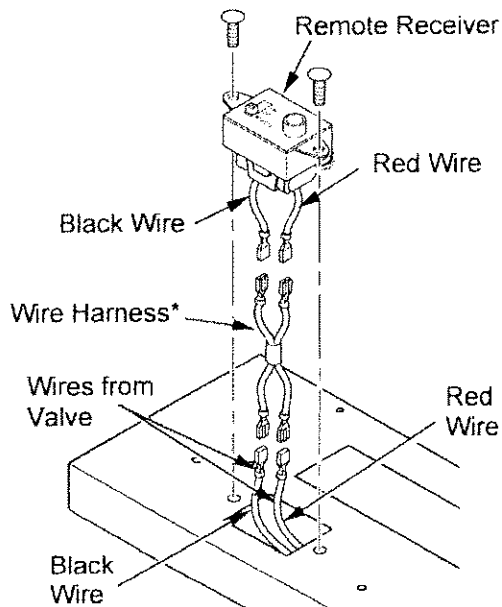

Figure 29 - Installing Remote Receiver
8. Install remote receiver unit onto fireplace base using the two screws removed in step one (see Figure 29, page 20).